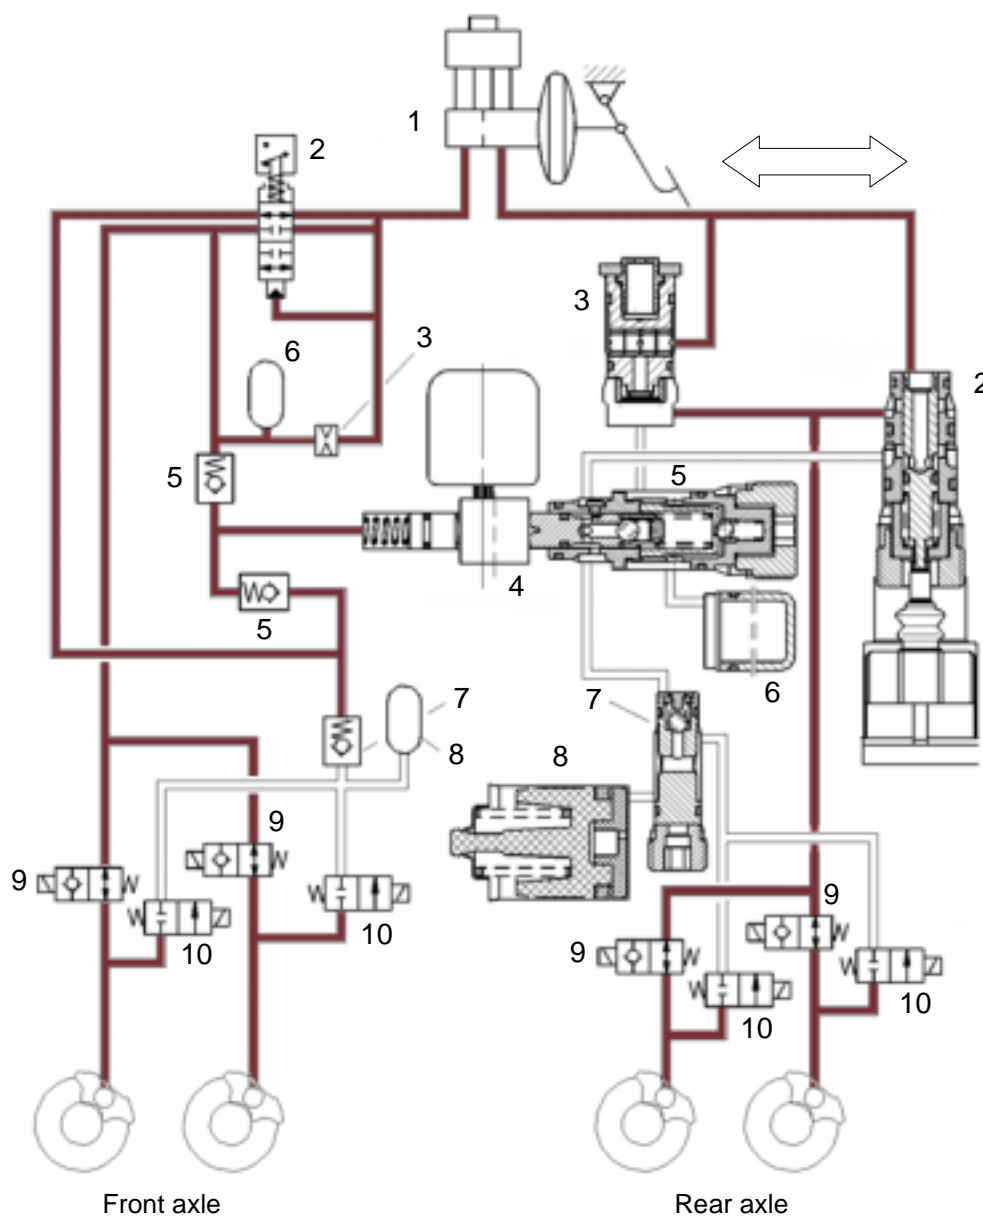

Fig. 10
Fig. 10 shows the brake pedal with master cylinder and brake booster (1), the ETC valve with switch (2), the filling piston (3), the pump system
(4), the suction and pressure valves (5), the dampers (6), the system valves (7), the expander chambers (8), the inlet valves (9) and the outlet valves (10) in their initial positions.